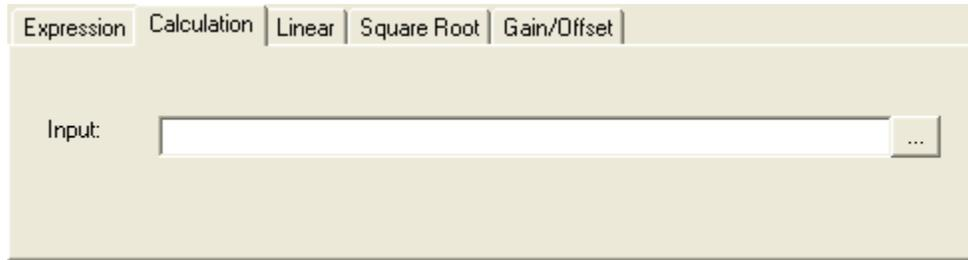

Figure 27 - Calculation Tab
- Select the **Calculation** tab (Figure 27).